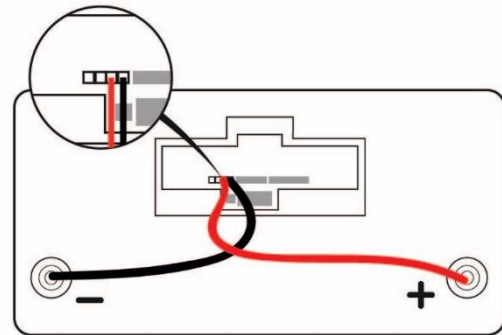

Figure 13: Storage
3. To put the MLI-E in storage mode, 12V should be applied to pins 3/4 of connector J2. Where Pin 3 is +12V and pin 4 is GND, as shown in Figure 13.